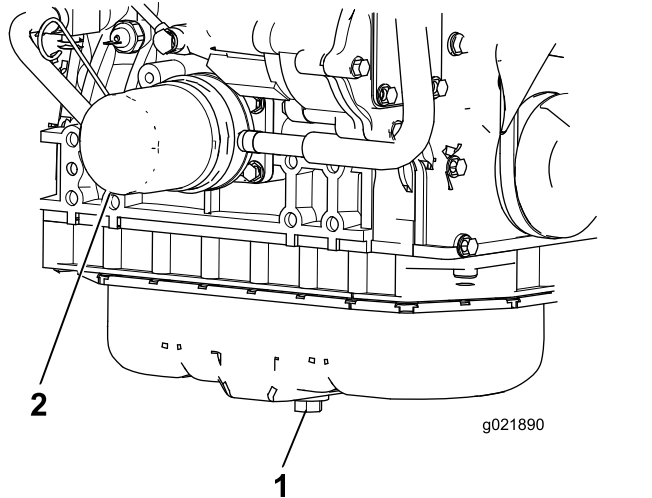

Figure 56
1. Remove the drain plug (Figure 56) and let the oil flow into a drain pan. When all the oil is drained, install the drain plug.
2. Remove the oil filter (Figure 56). Apply a light coat of clean oil to the new filter seal before screwing it on. **Do not overtighten.**